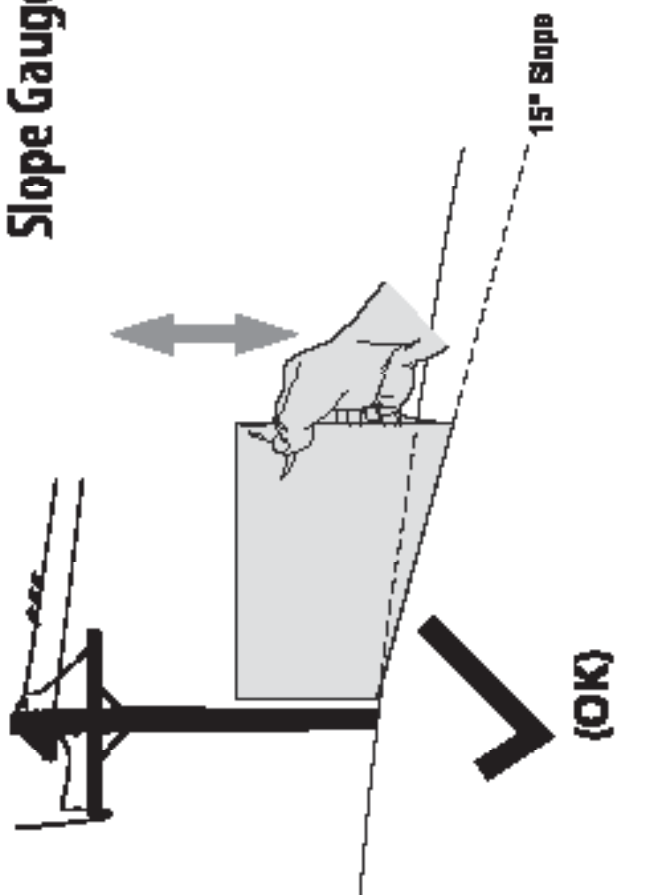
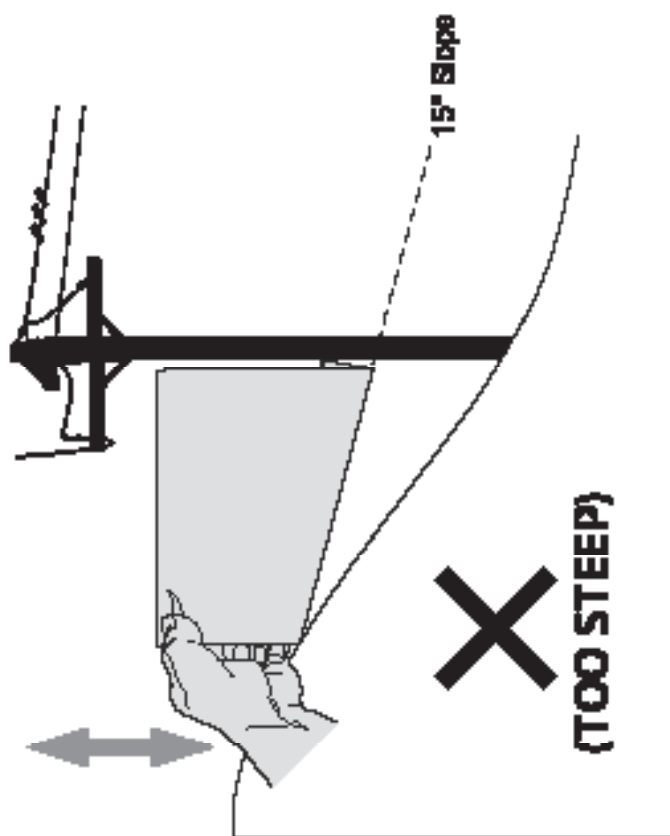

Figure 1
Figure 2
3. Align the left side of the slope gauge with the object (See Figure 1 and Figure 2).
4. Adjust the gauge up or down until the left corner touches the slope (See Figure 1 and Figure 2).
5. If there is a gap below the gauge, the slope is too steep for safe operation (See Figure 2 above).